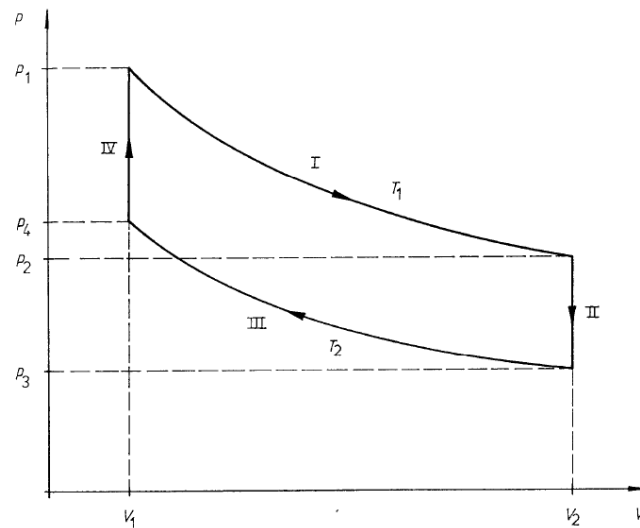

Figure 1. Ideal Stirling cycle.
The ideal Stirling cycle (Figure 1) comprises four steps: (I) an isothermal expansion; (II) and isochoric depressurization; (III) and isothermal compression; and (IV) and isochoric pressurisation.